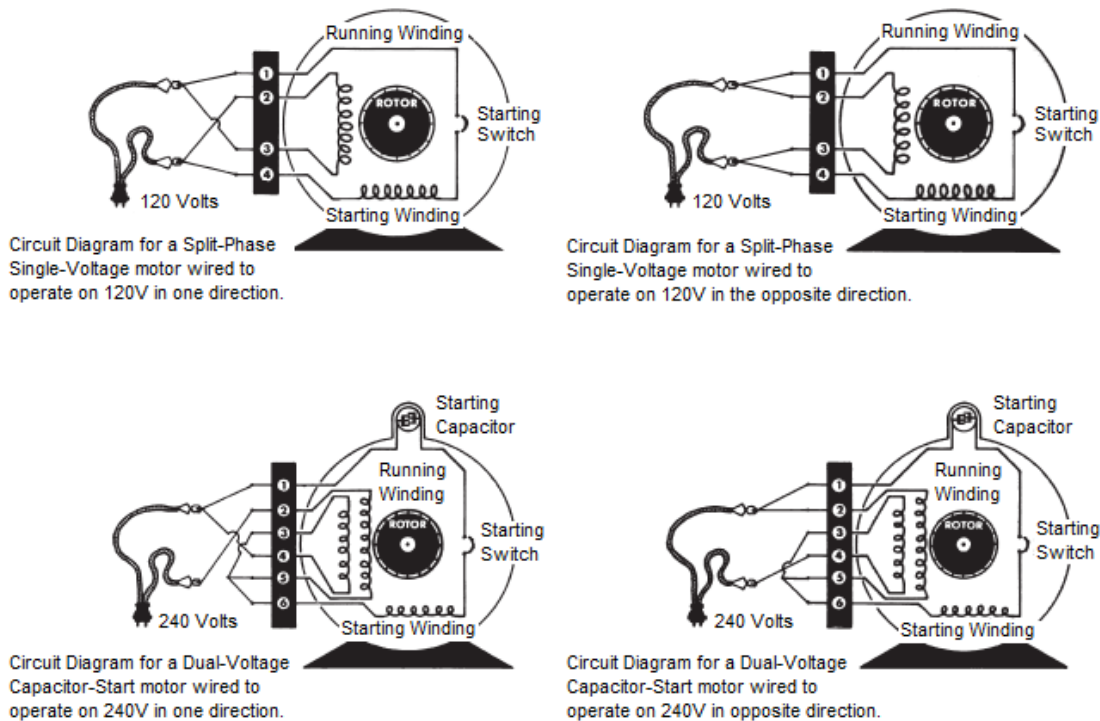

Figure 551-88L-3063_03
- (1) Test capacitor per step 2.b.4).
- (2) Inspect switch contacts and connections. Verify that switch reeds have some spring in them.
- (3) Noisy or rough feeling bearings should be replaced.
- (4) Make sure switchboard voltage is showing within 10% of the motor's nameplate rating.
5. Demonstrate troubleshooting procedures for a motor that runs in the wrong direction, (refer to Figure 551-88L-3063_03).